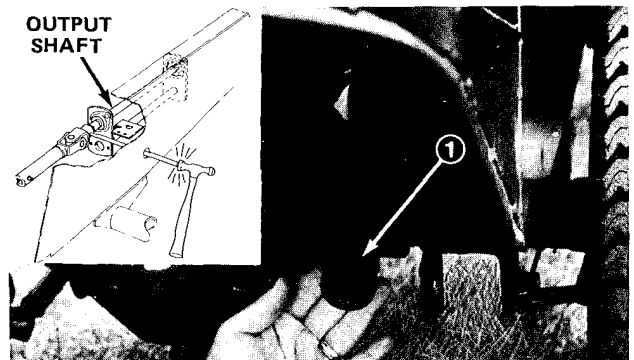

Figure 25
2. Remove (5) wheel nuts and slide wheel off axle to expose access hole in side of chassis (Fig. 25).
3. Rotate PTO shaft to align hole in PTO shaft with hole in chassis (Fig. 25).
4. Through access hole in chassis, drive roll out of PTO shaft and output shaft with pin punch and hammer (Fig. 25).
6. Reinstall wheel with (5) wheel nuts previously removed. Tighten nuts to 60–80 ft–lb.